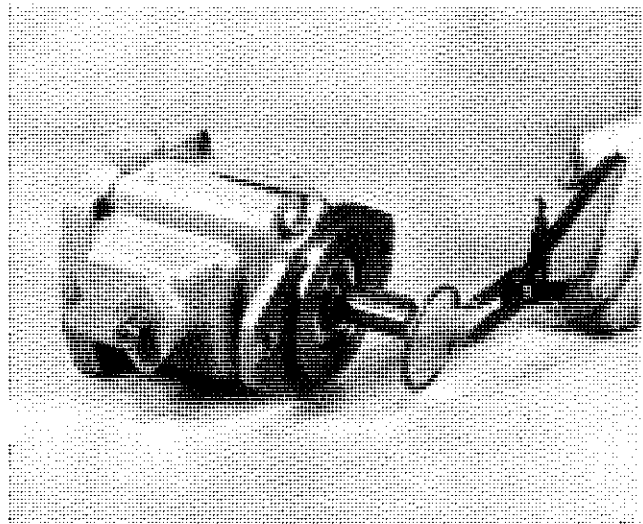

Figure VI-26. Removal of Shaft
- a. Remove snap ring retainer using Truarc pliers (Figure VI-26).